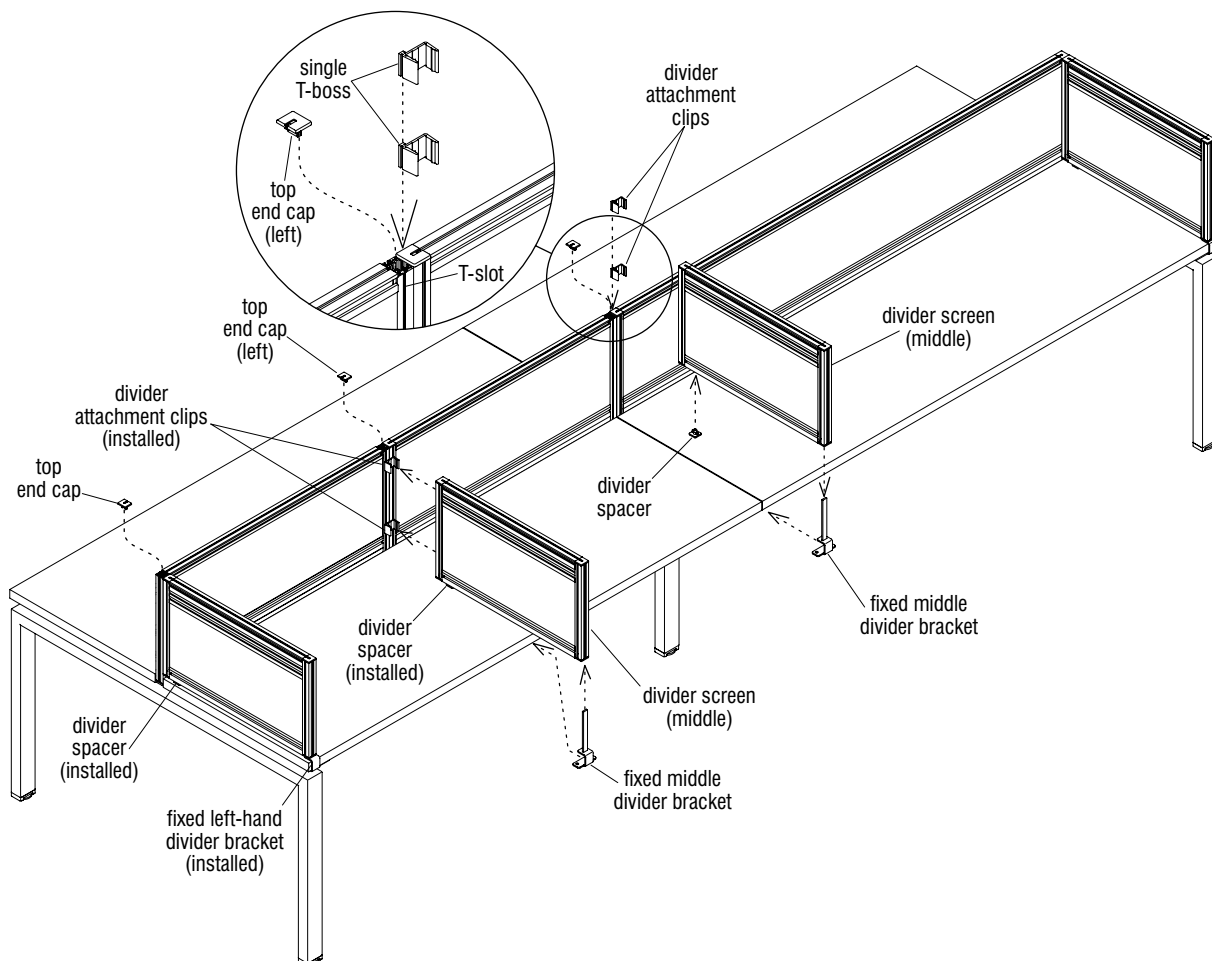

Figure 18 - Dual-Sided Benching, Center Divider Screen Installation
6. At each union of privacy screens to receive middle divider screens, correctly orient and slide the T-boss of two divider attachment clips down the T-slot (where top end cap was removed) and into position with one above the other as illustrated (Figure 18).
7. Locate and orient a “fixed middle divider bracket” as shown and slide the bayonet up into the hole at the bottom, front of the middle divider screen. Next, locate a “divider spacer”, position it into the horizontal T-slot at the underside of the divider screen near the back and twist the spacer 90° to lock it in position (Figure 18).
9. Repeat the process for all middle dividers to be installed, then re-install all top end caps that were removed. Go back and adjust all divider spacers and divider attachment clips to be uniform along the run of benching (Figure 18).